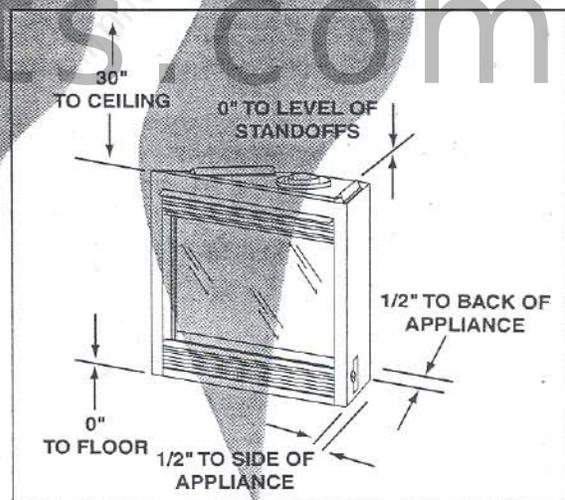
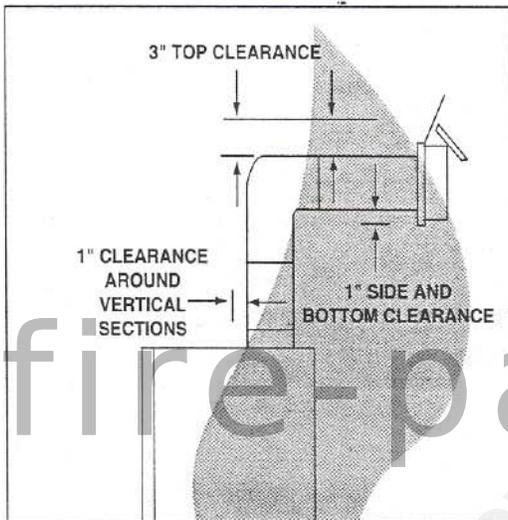

Figure 2
Figure 4
Figure 2 shows all clearances that must be maintained around the appliance. See page nine for termination cap clearances. See Figures 4 and 15 for vent clearances.
a. Clearances - See Figure 4 for clearance information
ALWAYS MAINTAIN MINIMUM AIR SPACE CLEARANCES OR GREATER AROUND THE CHIMNEY SYSTEM. SEE FIGURE 4. DO NOT PACK AIR SPACES WITH INSULATION OR OTHER MATERIAL.